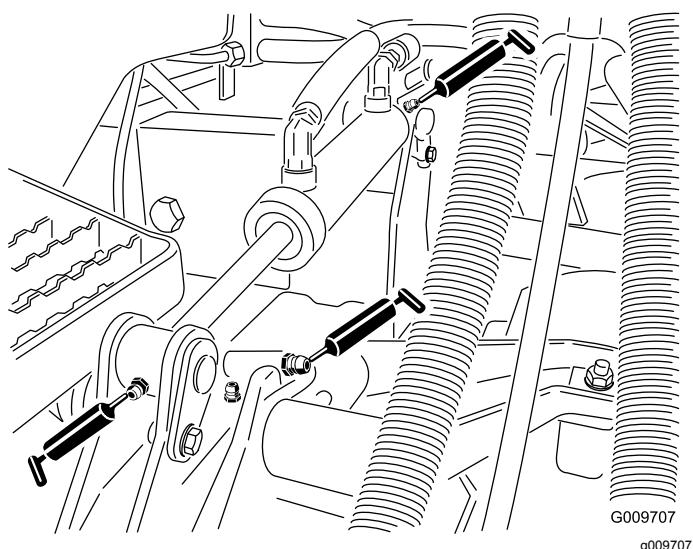

Figure 29
- Lift-cylinder bushings (2 per deck) (Figure 29)